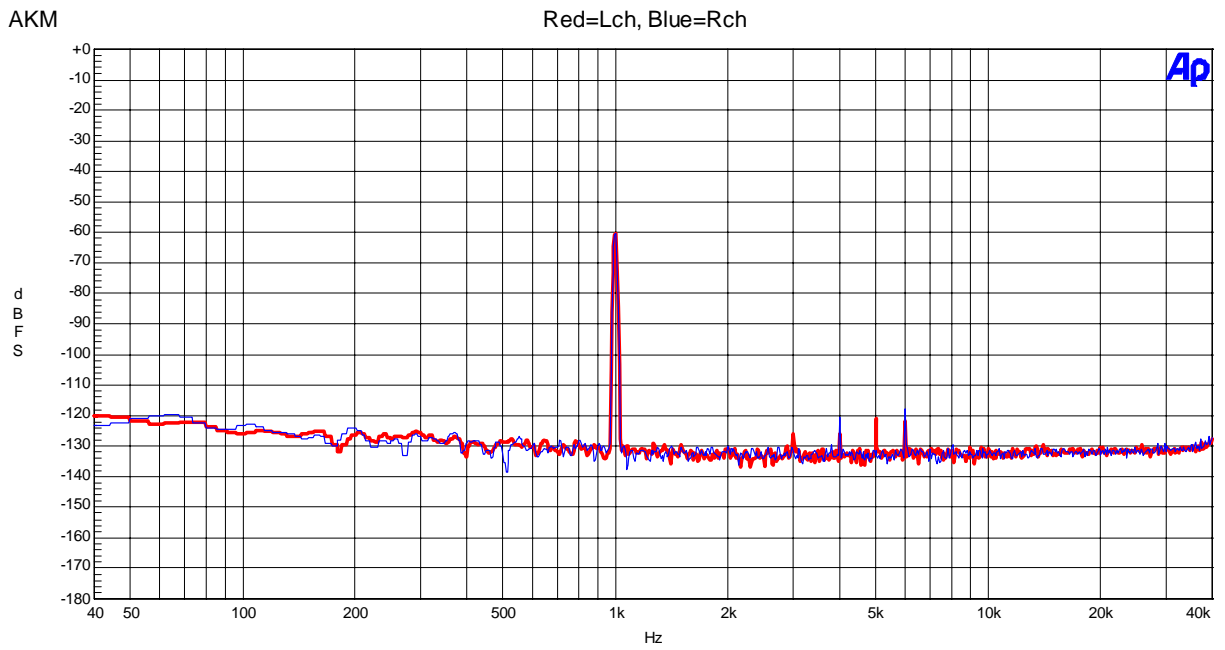

Figure 16 FFT (Input=-60dBFS, fin=1kHz)
- Figure 16 FFT (1kHz, -60dBFS input)